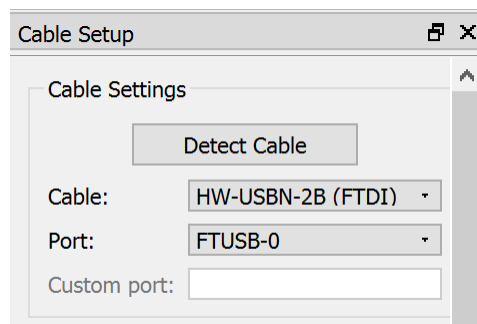

Figure 6.8. Port Selecting
- If the device is not detected on port FTUSB-0, click on *Detect Cable* and select the port FTUSB-1 (Figure 6.8).